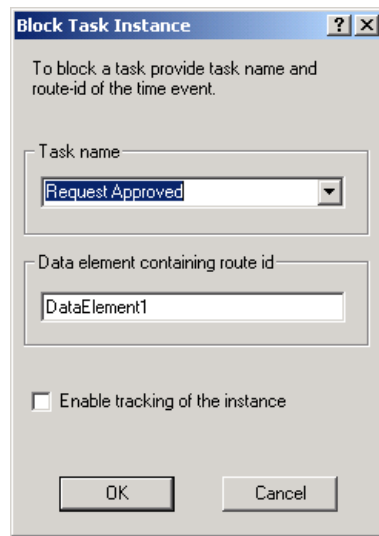

Figure 35-9. Block Task Instance dialog with Task name and a data element containing route ID.
- 3 Type the name of the data element that contains the task route ID. (See Figure 35-9, below)